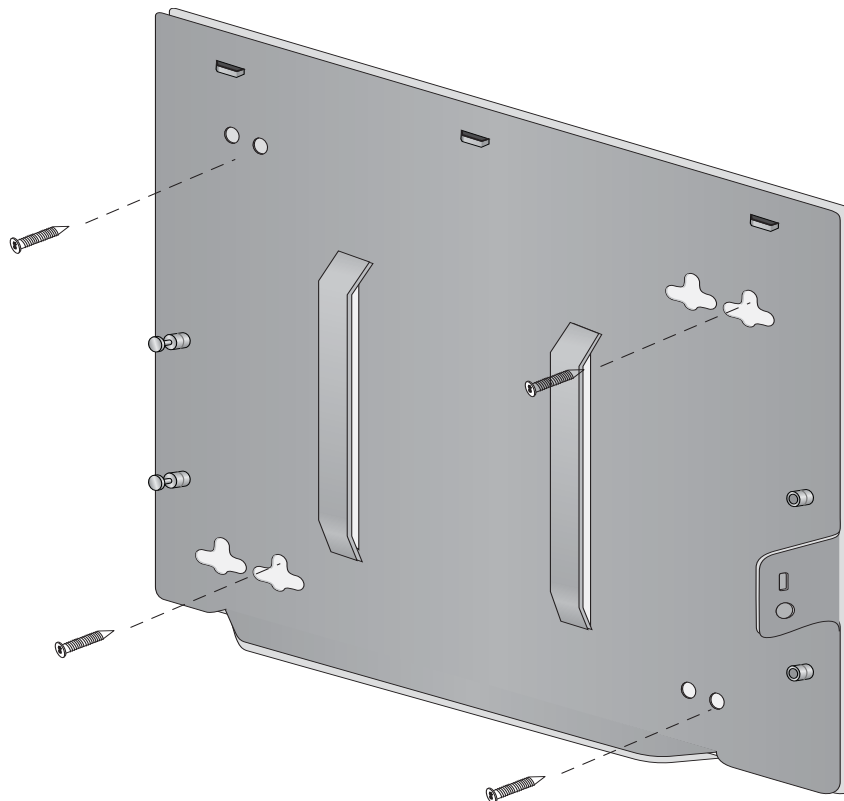

Figure 17. Attaching the Bottom Panel to the Wall or Ceiling
4. Have someone hold the panel at the selected wall or ceiling location while you secure it to with four self-tapping screws (not provided with the access point). Refer to Figure 17.